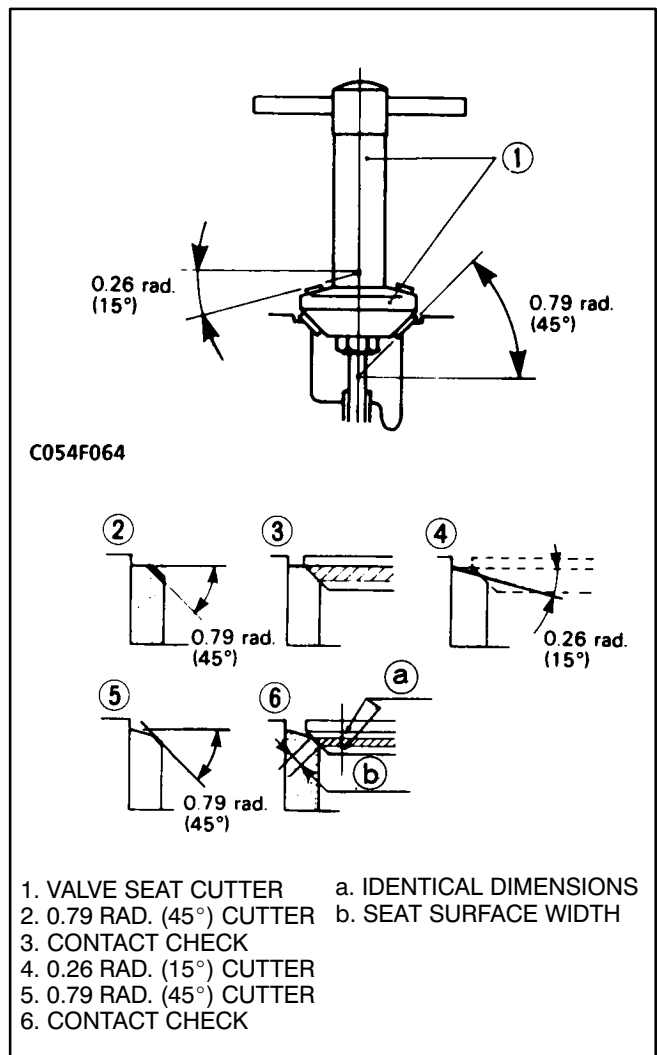

FIGURE 9-10. REGRINDING VALVE SEAT
2. Use a vernier caliper to measure the valve seat width (Figure 9-10). (See Section 3. *Dimensions and Clearances* for seat width allowable limit.)
1. Grind the valve seat surface with a 45° cutter. Use a cutter appropriate for the valve seat surface and valve guide diameter (Figure 9-10).